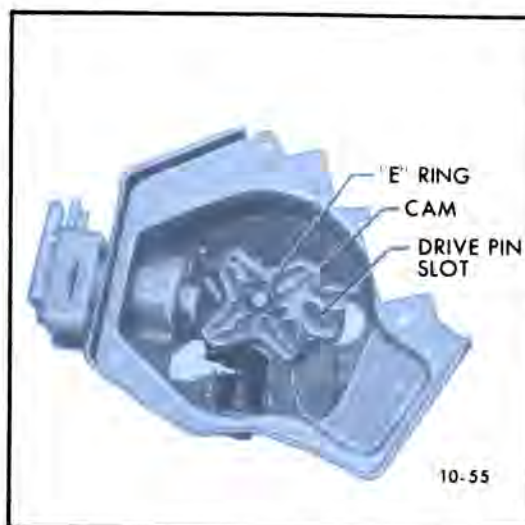

Figure 10-58 Checking Operation of Relay Switch and Latch Arm
a. Observe if relay latch arm spring is connected properly. See Figure 10-58.
c. If items in "a" and "b" check out, connect power source to wiper and connect jumper wire from Terminal No. 3 to wiper housing. Figure 10-58. Do not make any connection from Terminal No. 1. Manually actuate latch arm
a. Check that drive pawl and relay latch arm springs are properly connected as shown in Figure 10-58.
(1) Solder joint at No. 3 wiper terminal.
(2) Splice joint - black lead with pink stripe to field coil leads.
(3) Splice joint - black lead to field coil.
(2) Connect power source and jumper to wiper as shown in Figure 10-58 and observe if test light goes out once for each revolution of gear or if light glows steady. If light glows steady, relay switch contacts are not opening and switch is defective. If light goes out each time drive pawl moves into relay switch slot relay switch is functioning correctly.
a. Check for grounded condition in the internal black lead that connects to wiper terminal No. 3. Refer to Figure 10-58 for Terminal No. 3 location.